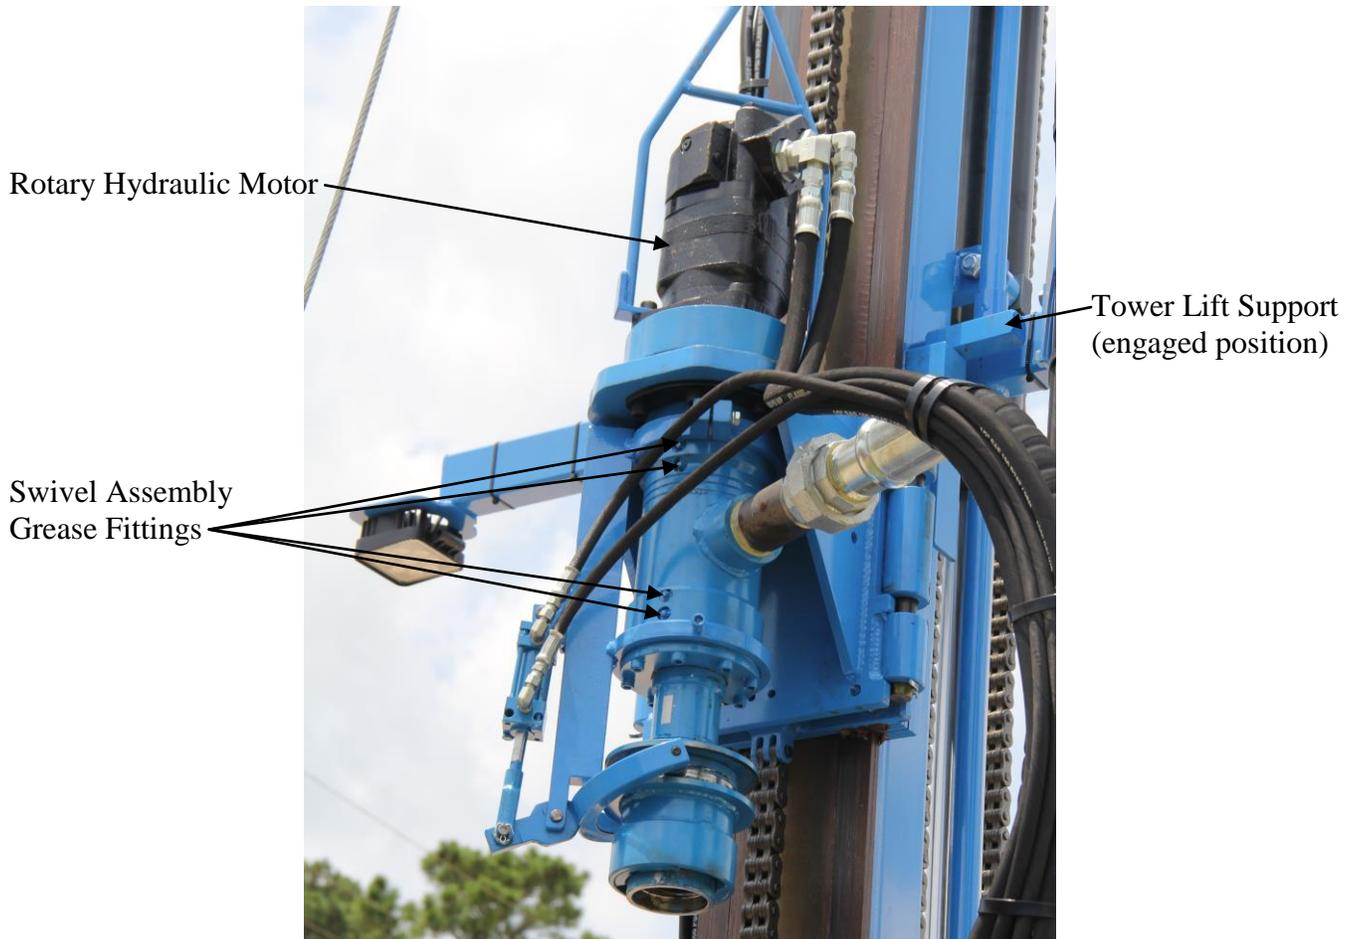

Figure 3 Rotary Drill Head Assembly
IMPORTANT: Do not over-grease. Do not over-pressurize. Apply grease to all four (4) grease fittings using a grease gun. See figure 3. Pump until resistance is felt, then remove the grease gun. **Release pressure from the swivel and packing by depressing the ball check in all four (4) grease fittings with a sharp object such as a screwdriver blade.**
- Engage (L-shaped) tower lift supports by lifting and pivoting 90° outward on both sides of rotary drill head assembly. See figure 3.